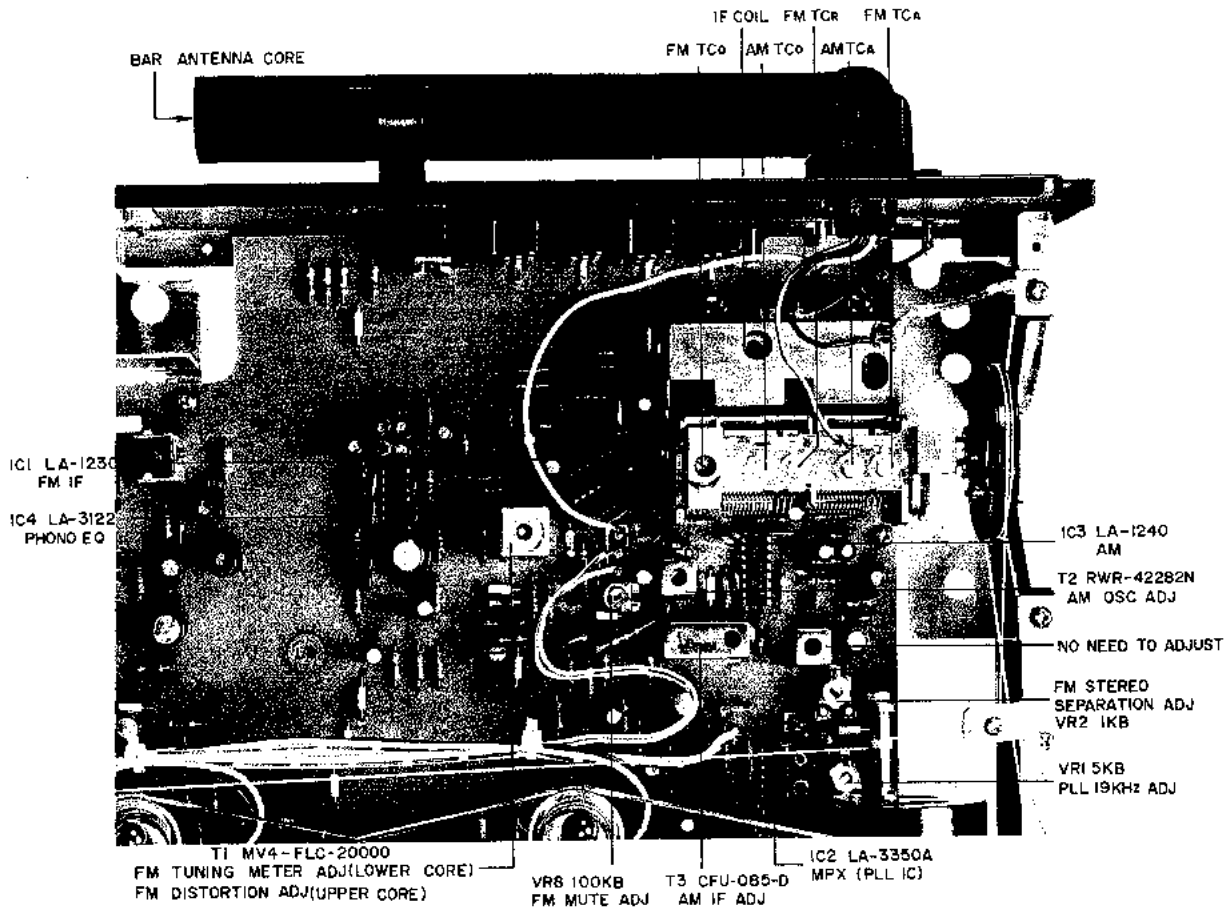

Fig. 20 Receiver P.C Board (AA-1115/AA-1125)
1. FM TUNER SECTION ADJUSTMENT (Refer to Fig. 20)
2. AM TUNER SECTION ADJUSTMENT (Refer to Fig. 20)